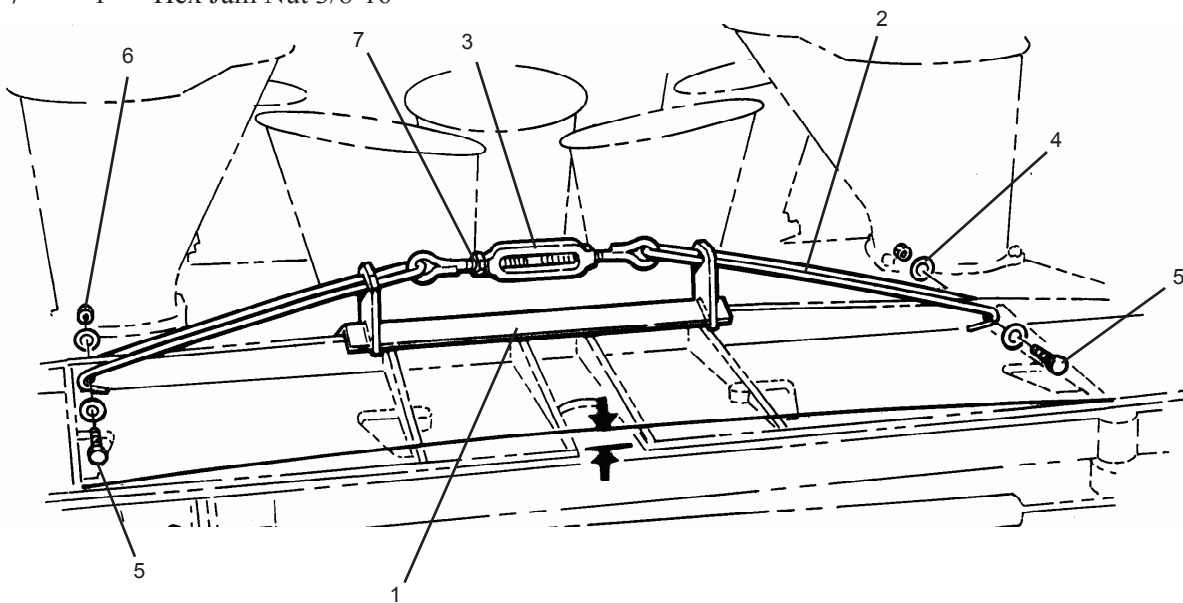

Figure 1
2. Using a 3/8 flat washer, mark two holes on rear cross web of moving deck support. Position holes as close to the 7 pin vertical support web as possible. Refer to *Figure 1*.
5. Extend the turn buckle and install bolts and washers. Refer to *Figure 1*. Tighten bolts and nuts, tighten turnbuckle; and then tighten nuts and bolts securely.